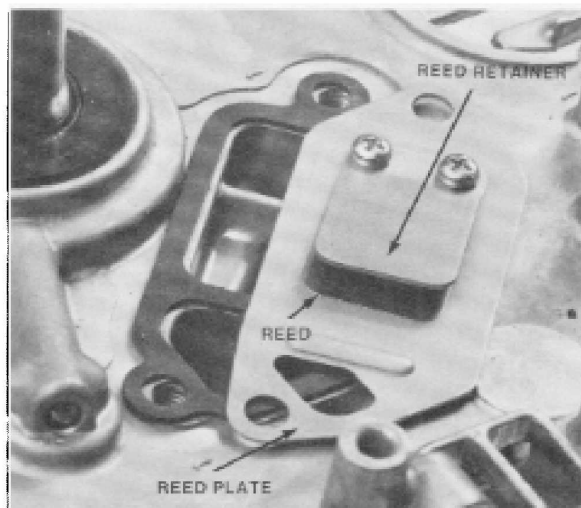

Figure 4-58
3. Install the cover plate. Use two 6 mm screws that are 12 mm long. If longer screws are used, the block may be damaged. Torque the screws to .4 - .7 kg-m (3.0 - 5.0 ft-lbs). See Fig. 4-58.